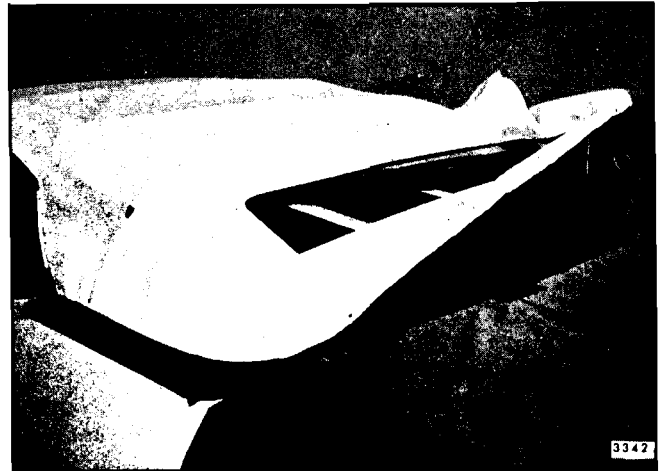

Fig. 13-12—Raising Balance of Trimstick "A" Styles
On "A" styles, with top two to four inches off header, move one end of trimstick inward for clearance. Then pry it upward between hinge and body to clear rear side roof rail (Fig. 13-11). Raise removed end of trimstick upward and forward. Then continue by removing balance of trimstick above body belt line (Fig. 13-12 and 13-13).
8. Position rear trimstick(s) into body in reverse of removal operations (See Step 12 of Removal of Folding Top and Back Curtain Trim Assembly, Fig. 13-12 or 13-14).